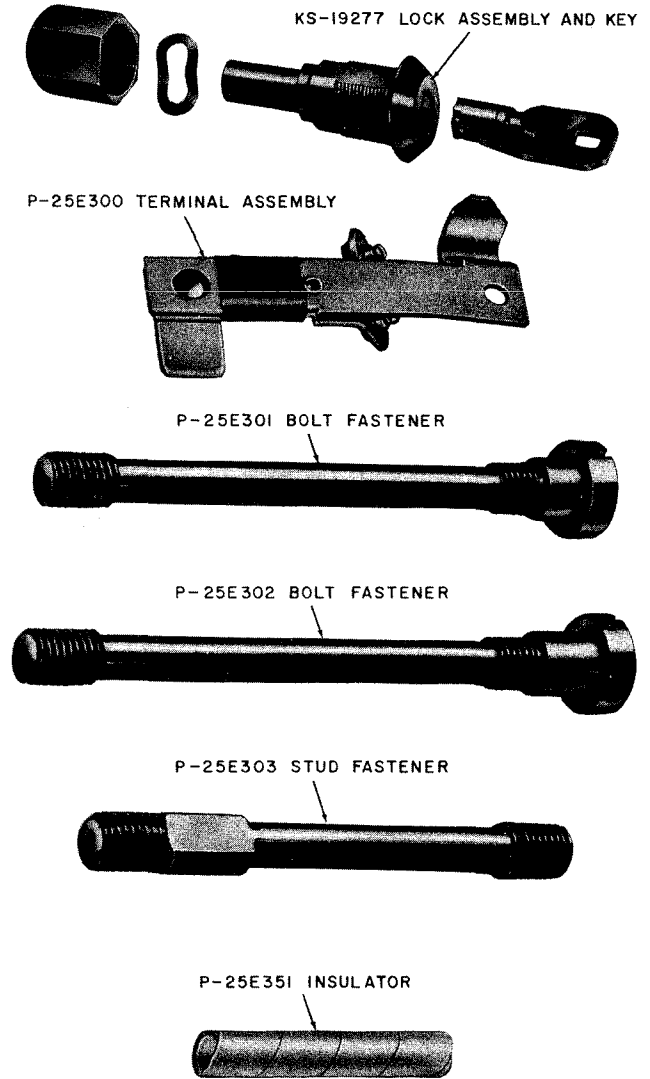

Fig. 13—KS-19277 Lock And Associated Parts
3.10 The KS-19277 lock and associated parts (Fig. 13) are designed to give additional security to the upper housing. The arrangement consists of a screw type lock and appropriate
3.15 There are three fasteners available for use with the KS-19277 lock (Fig. 13).